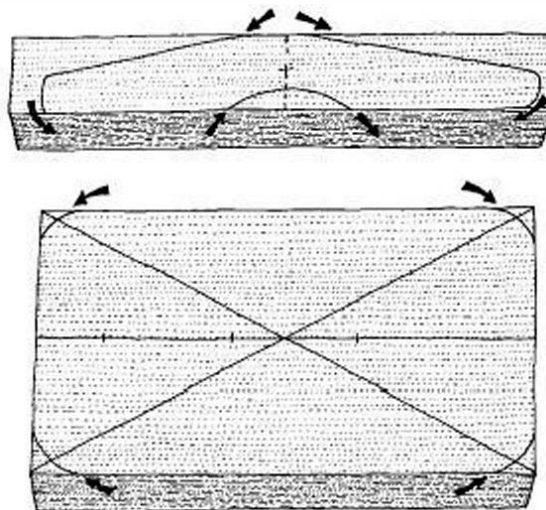

FIGURE 7-3
- 3 Having marked the base slab, beam and derrick, and being satisfied with the way the imagery relates to your chosen pieces of wood, move to the scroll saw and set to work cutting out the profiles (Fig 7-3).